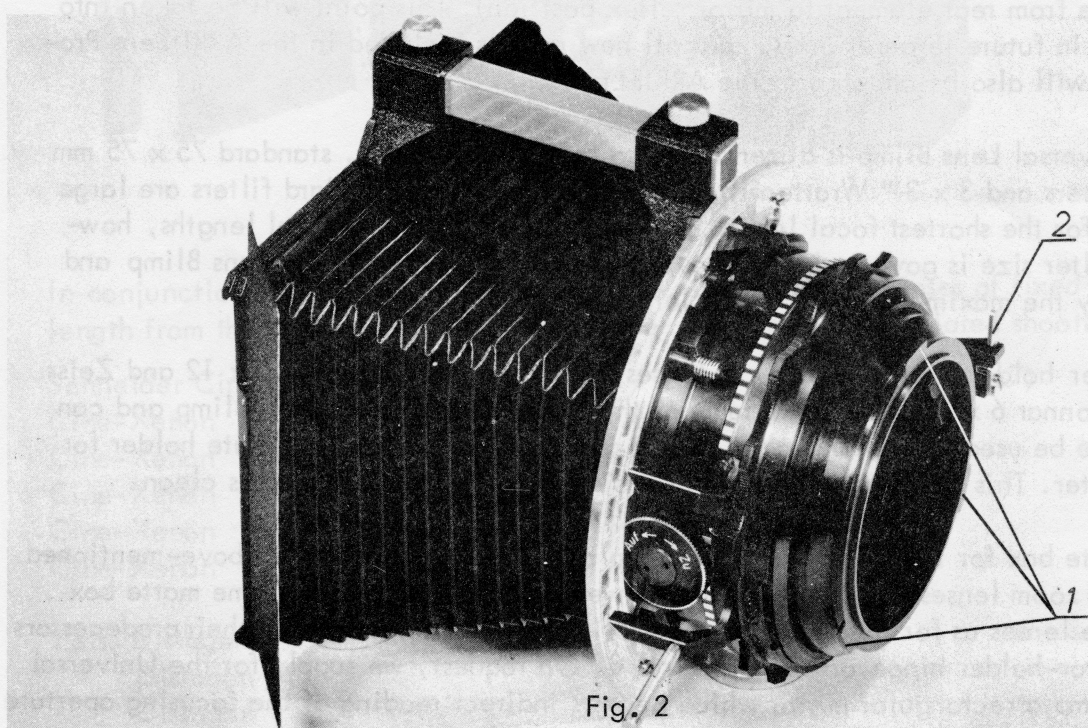

Fig. 2
1. Universal Lens Blimp, Fig. 2, with the three clamping lugs (Fig. 2/1) in the three grooves on the camera (as for zoom lens), then turn to right until the lens blimp engages the latch (Fig. 2/2). The matte box is mounted exactly as on zoom lenses.